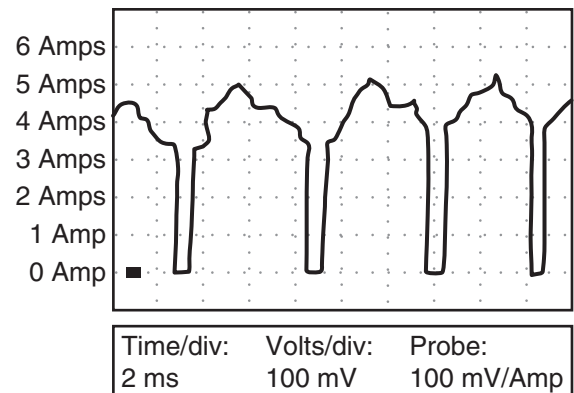

Figure 6-44 A motor with an open winding, a shorted winding, and worn brushes. © Cengage Learning 2012
- Any combination of the above (Figure 6-44).